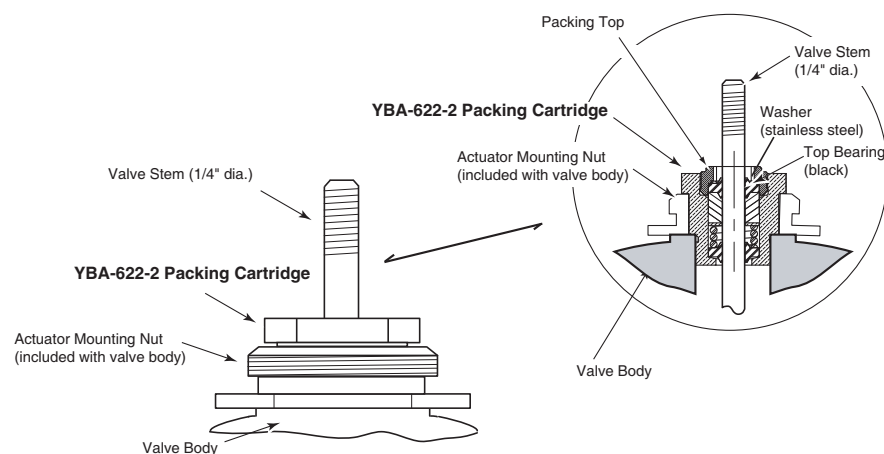

Figure-1 Installation of YBA-622-2 Complete Packing Cartridge into 1/2" to 2" VB-7xxx and 1/2" to 1-1/4" Obsolete VB-9xxx Valves.
- YBA-622-2 can be distinguished from earlier versions by its stainless steel backup washer and black top bearing (refer to Figure-1).
Note: Packing top (see Figure-1) must be threaded **only one turn** into cartridge before sliding over valve stem